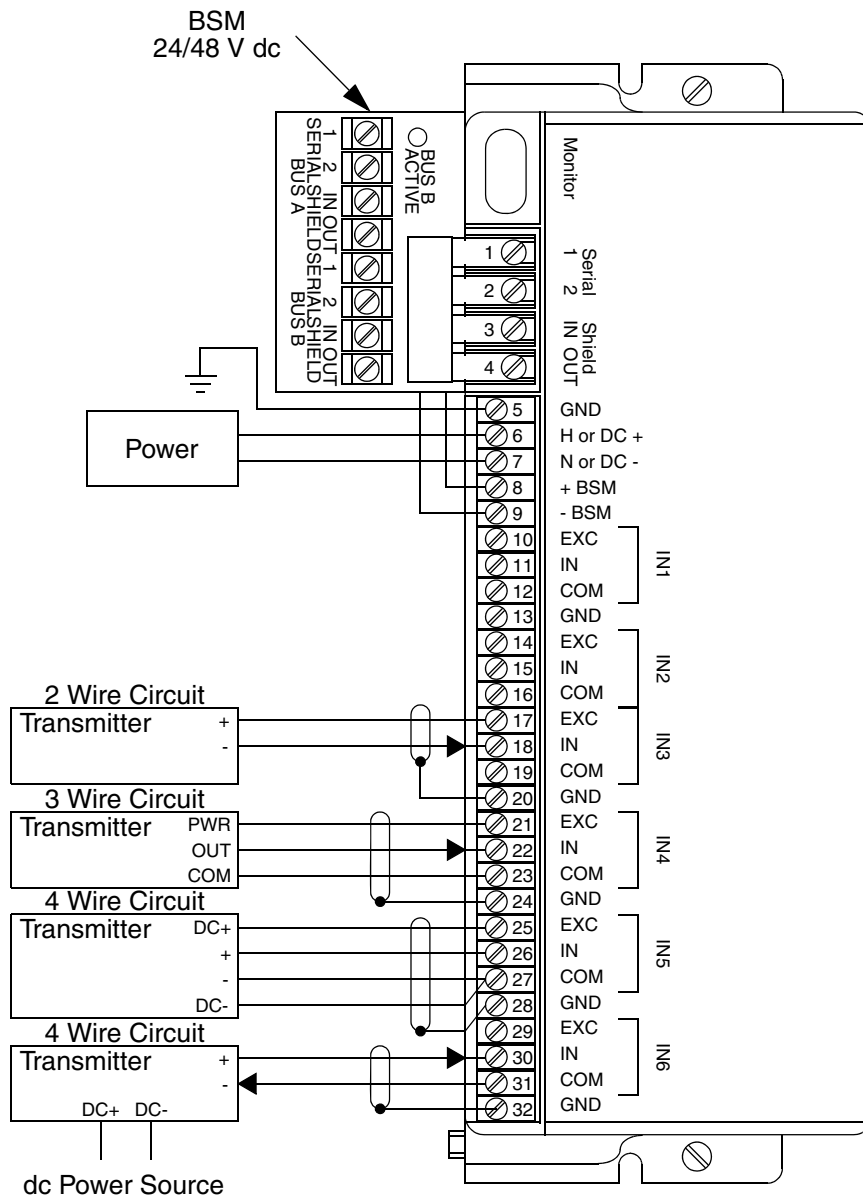
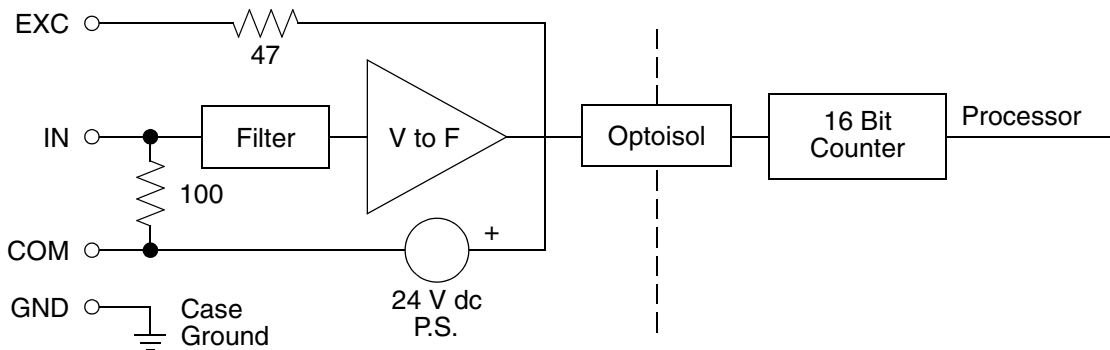

Figure 66. Terminal Connections for the 6235B 6 Circuit Current Source Analog Input Block
Figure 67. Input Channel Schematic for the 6235B 6 Circuit Current Source Analog Input Block
The 6235B 6 Circuit Current Source Analog Input Block, Figure 66, is available in two versions: one requiring a 115 V ac or 125 V dc power supply, and another requiring either 24 or 48 V dc power. They are the same in other respects. The block is used to interface to devices that provide 4 to 20 mA current signals. The 6235B Block has six inputs, numbered as inputs 1 through 6.
As Figure 66 shows, power is brought into the block at terminals 6 and 7. Terminal 6 is used for dc positive or ac hot. Terminal 7 is used for dc negative or ac neutral. These terminals can take up to one AWG #14 wire.
Each input has Excitation (EXC), Input (IN), Common (COM) and Ground (GND) connections. Figure 66 shows the types of connections that must be made for 2, 3, or 4 (self powered) wire transmitters. Figure 67 is a simplified schematic of an input channel.